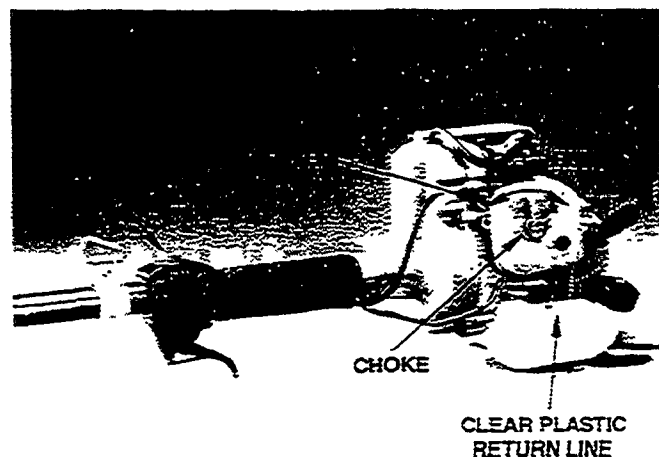

Figure 18
- Place choke lever in the closed position (Figure 18).